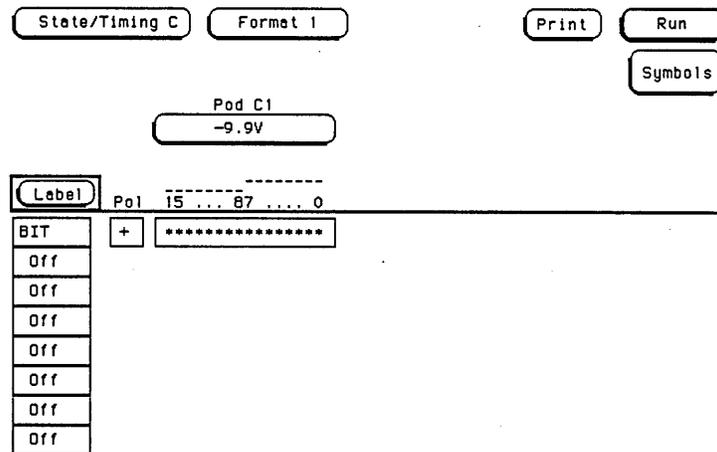

Figure 3-45. Format Screen
14. Change the User defined Pod Threshold in the Format screen to **-9.9 V** as in figure 3-45.